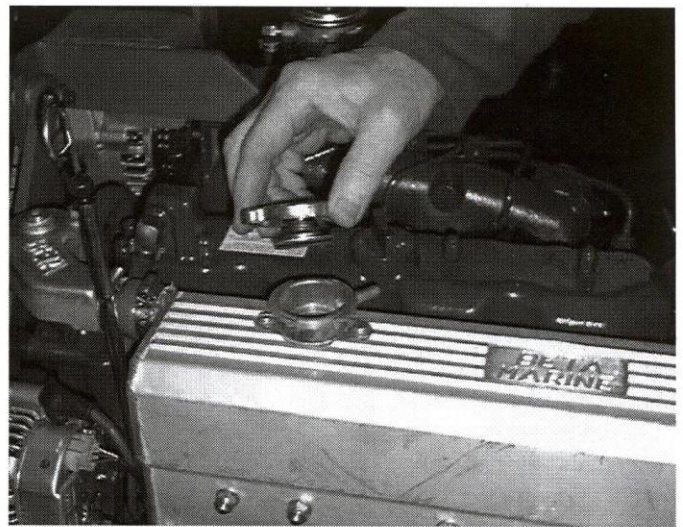

Fig. 2m
- (c) Fill engine with freshwater/anti freeze solution through the top of the header tank with the filler cap removed. (see fig 2m).